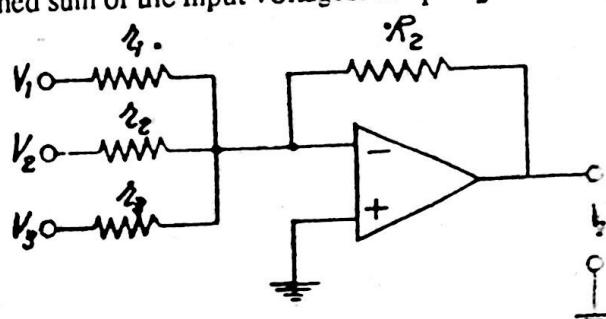

Fig. 17. Summing amplifier.
Refer to art. 20.7. (1) and fig. 17 of summing amplifier. Let $V_1 = X, V_2 = Y, V_3 = Z$ then output is